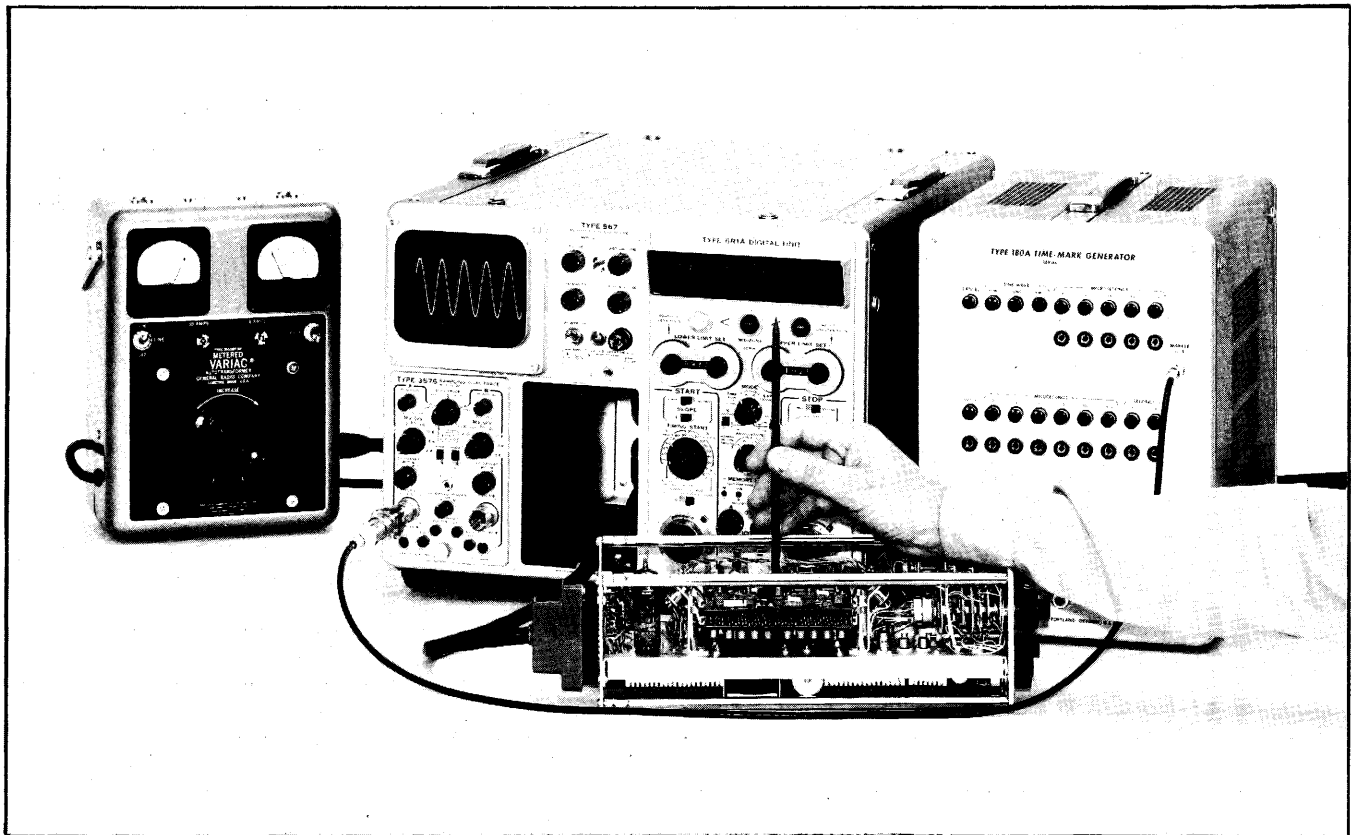

Fig. 5-21. Step 15 test setup for final adjustment of COMPARATOR LEVEL control R130.
15. Final Adjust COMPARATOR LEVEL Control, R130 ①
a. Connect the system shown in Fig. 5-21, and obtain a stable 5 mc sinewave display. Be certain that the Type 3T4 LEVEL control is counterclockwise of its 12 o'clock position.